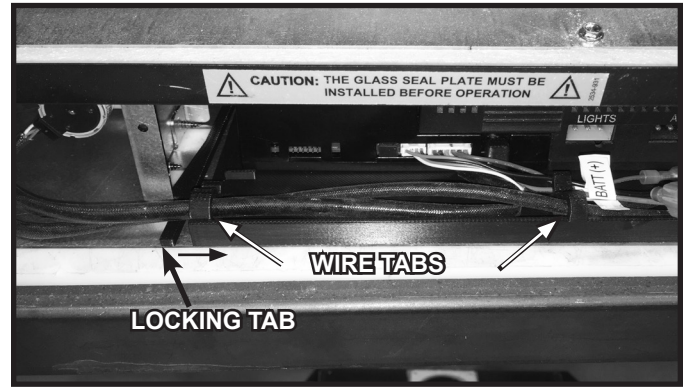

Figure 4
6. Remove the 6-pin wire harness and the regulator wire harness from the wire hold down tabs on the component tray. Slide the locking tab over and slide the component tray forward for easier access. See Figure 4.